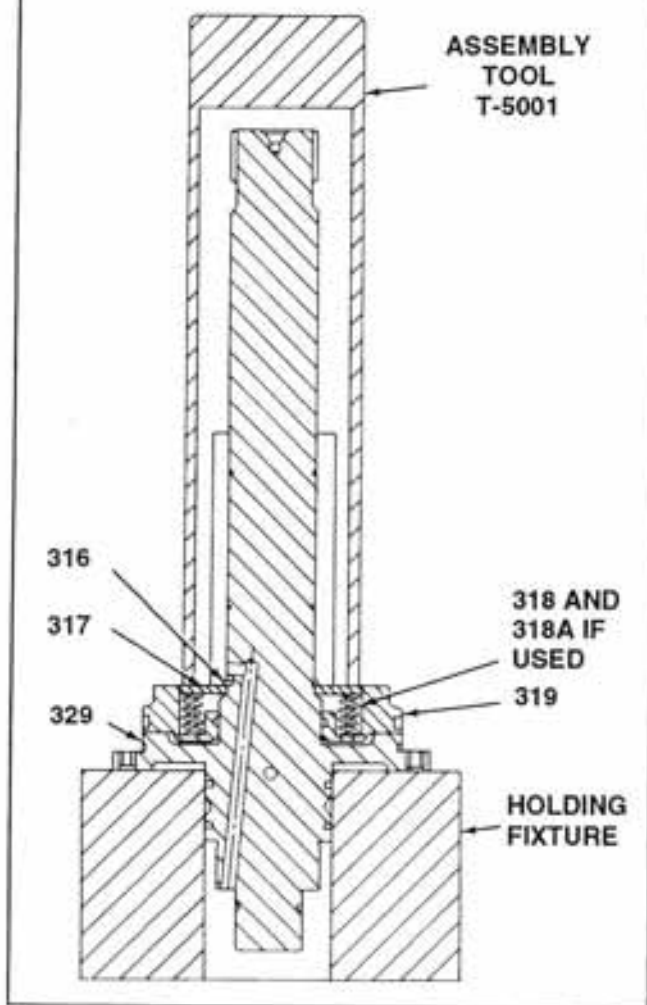

Figure 5-6. Installing Snap Ring
1. Install seal rings (328 and 327) and o-ring (326) in grooves on input shaft (329).
2. Install sealing ring assembly (323), consisting of o-ring (325) and sealing ring (324), in groove in ID of clutch piston assembly (319). Install sealing ring assembly (320), consisting of o-ring (322) and sealing ring (321) in groove on OD of clutch piston.
3. Install clutch piston assembly (319) on input shaft (329) with sixteen spring holes facing away from shaft flange. Seat piston against shaft flange.
4. Support input shaft with piston, o-rings and seal rings (319 through 329) in suitable holding fixture (see figure 5-6) in arbor press.
5. Install springs (318, and if used 318A) in holes in clutch piston assembly (319) as follows:
- a. For transmissions 2001-000-011 thru -016, and 2001-000-R01 thru 2001-000-R06 install sixteen springs (318).
- b. For transmissions 2001-000-001 thru -006, first install four springs (318) equally spaced. Then